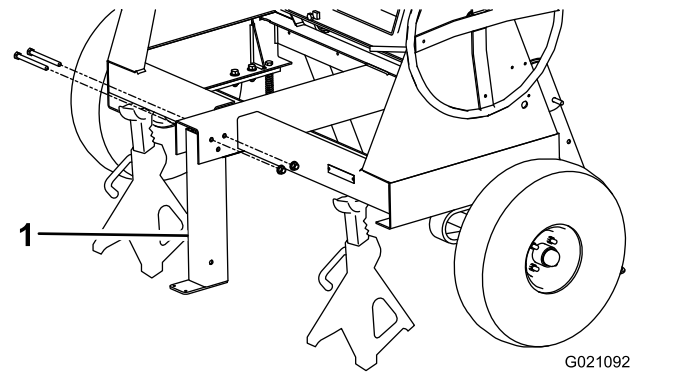

Figure 6
3. Remove the 2 nuts and bolts that secure the front stabilizer leg to the frame (Figure 6) and remove the front stabilizer leg.